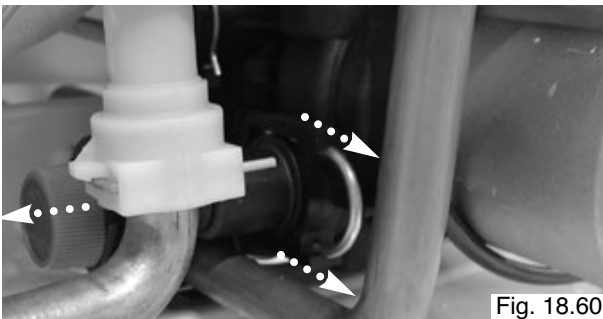

Fig. 18.60
2. Remove the clip securing the valve and disconnect the safety valve outlet (see Fig. 18.60) and pull it toward the left;